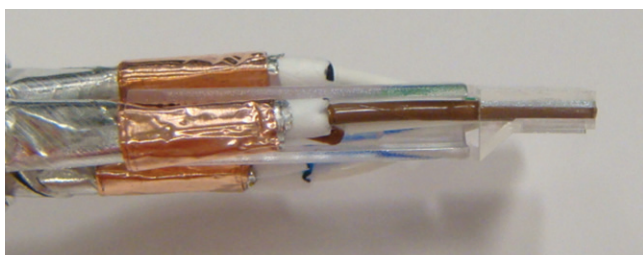

Figure 22: Trimming connectors
- Slide the load bar down the pair until it sits as close as possible to the plastic wire aligner. Using cutters, trim the conductors flush with the edge of the load bar (Figure 22).